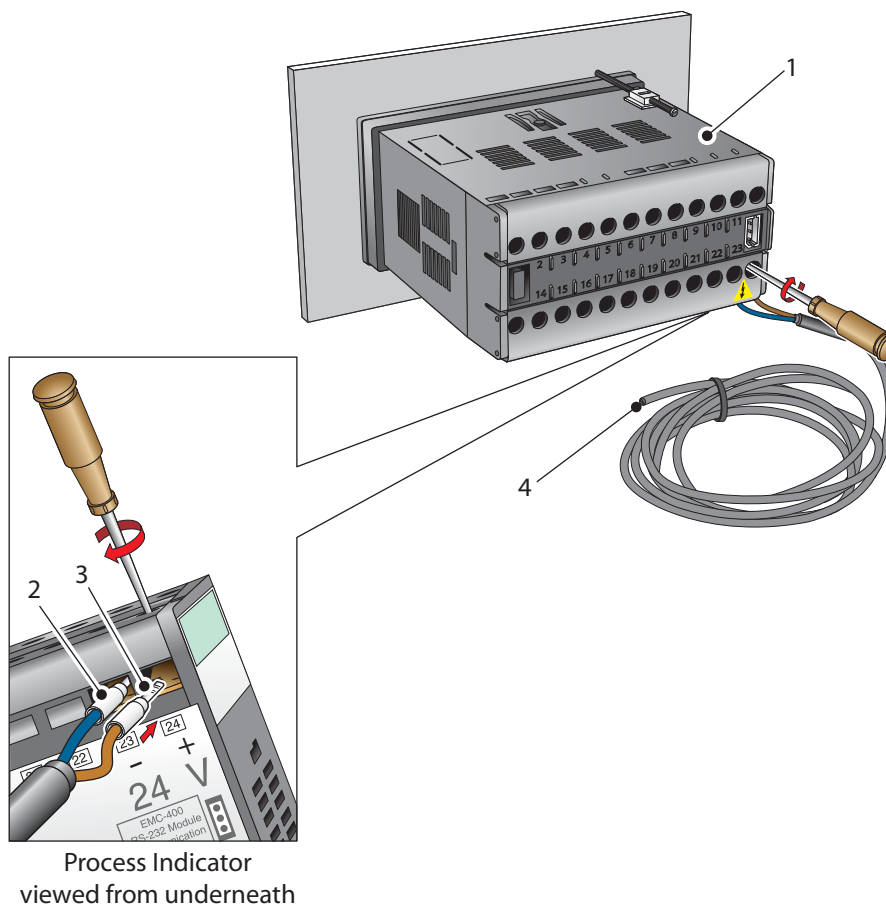

Figure 3.3 DC power supply connections
Connect the DC power supply to the Process Indicator (1) as shown in *Figure 3.3*. Refer also to Table 3.1 which gives a summary of all the connections to the rear panel of the Process Indicator.